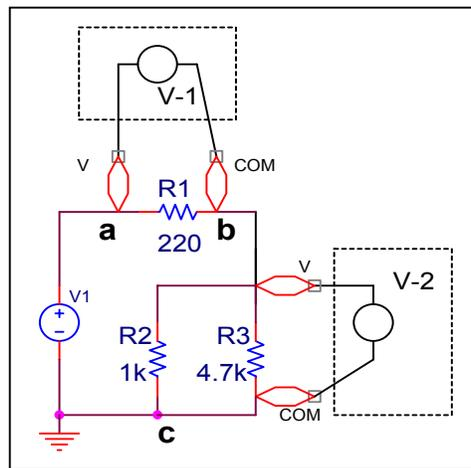

Figure 1.14 Voltage measurements
4. **[12 MARKS]** Calculate by hand in section 2 the voltages listed in Table 1.2 of the Lab Measurements Sheet (i.e., the voltages V_a , V_b , V_c , V_{ab} , V_{bc} and V_{R1} in Figure 1.14), and record the final answers in the column labeled “Theoretical Values” in Table 1.2 of the Lab Measurements Sheet. Show your calculations.
4.1 Measure V_a , V_b , V_c , V_{ab} , V_{bc} and V_{RI} listed in Table 1.2, using the digital meter as shown in Figure 1.14.